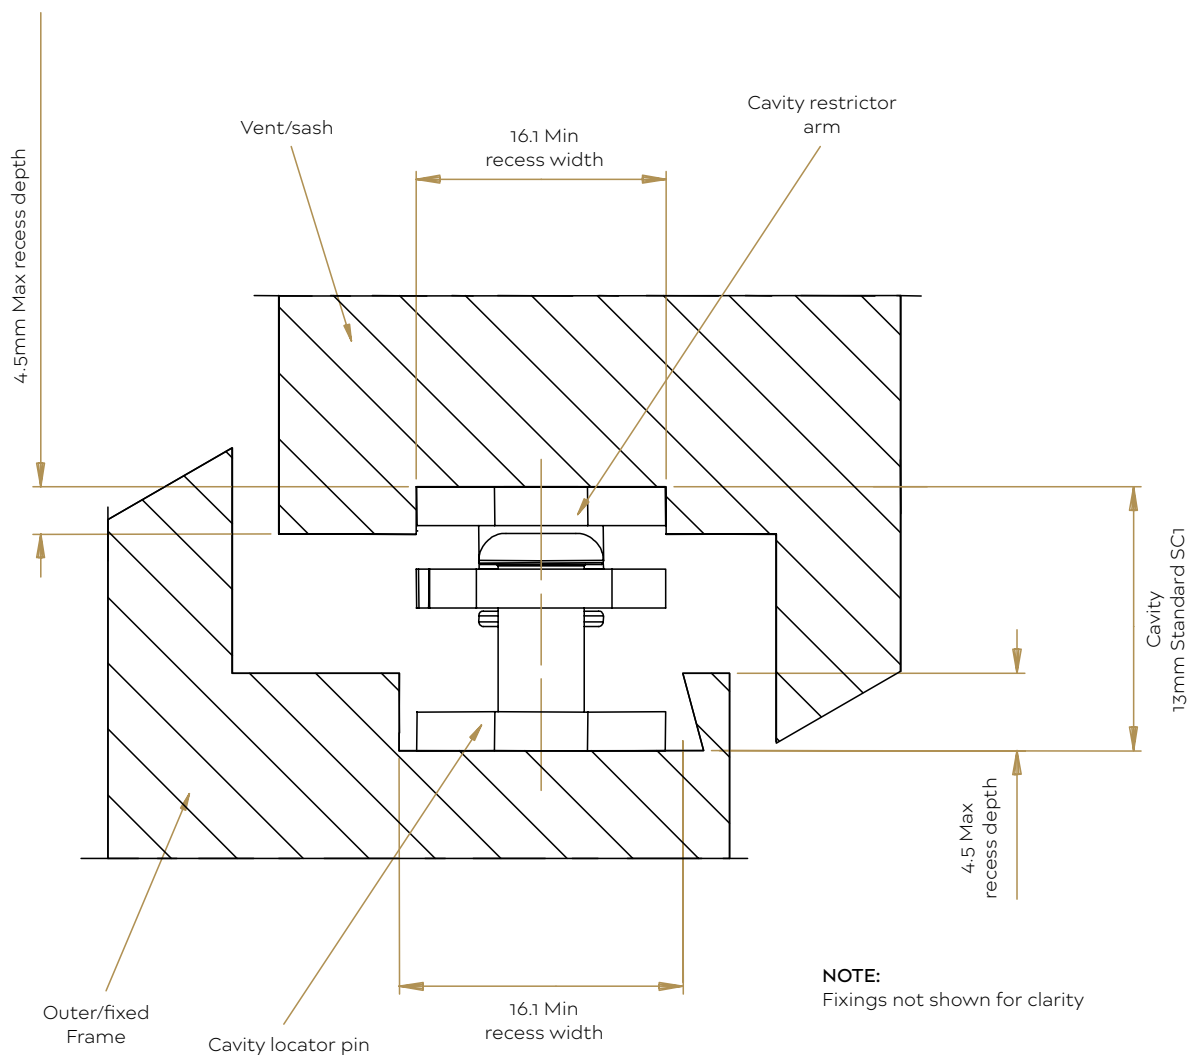

Fig. 1
3.1.8 The vent and outer frame location recess or up stand, if any, must be as shown in **Fig. 1**.
Alternatively the Cavity Restrictor Arm can be positioned within any vent aperture which conforms to the clearance requirements of **Fig. 1**.